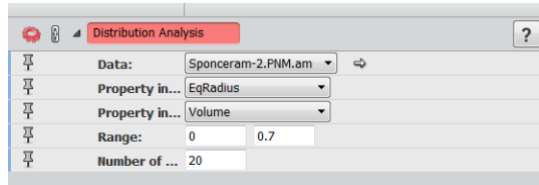

Figure 22.19: Distribution Analysis
- Set the parameters as shown in Figure 22.19 and click **Apply**.